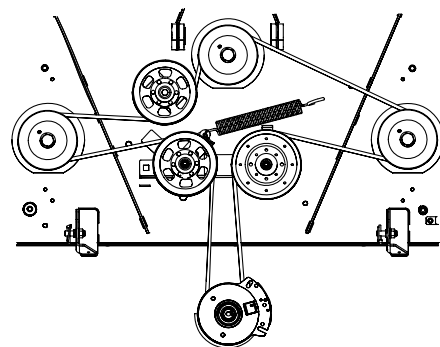

Figure 4-16
6. Place the belt around the idler pulleys removed in step 3 with the 'V' side facing in. Once in place, reinstall all the hardware and tighten the flange lock nut to secure the assembly. See Figure 4-16.
7. Route the belt as shown in Figure 4-16 and then reinstall the deck (refer to Deck Installation).